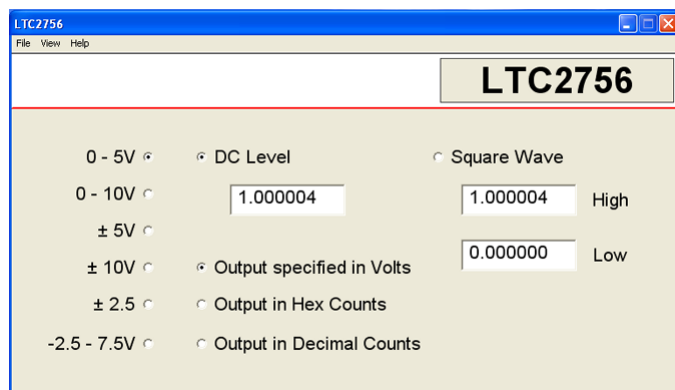

Figure 2. Software Screenshot
Figure 2. The software automatically sets the LTC2756 outputs according to the entries in the control panel. A square wave option is available to test settling time. MSPAN jumper should be set to 0 if software span control is desired. Setting MSPAN high (1) causes the S2, S1, S0 pins to set the span according to the table printed on the board, and the corresponding span should be selected in software to ensure that the calculated DAC code is correct.